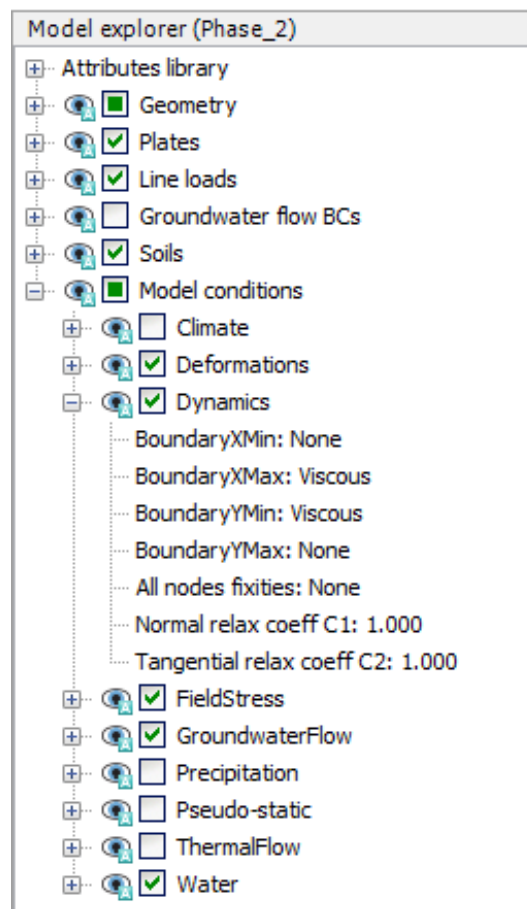

Figure 196: Boundary conditions for **dynamics** calculations
12. Special boundary conditions have to be defined to account for the fact that in reality the soil is a semi-infinite medium. Without these special boundary conditions the waves would be reflected on the model boundaries, causing perturbations. To avoid these spurious reflections, viscous boundaries are specified at Xmax and Ymin. The dynamic boundaries can be specified in the **Model explorer > Model conditions > Dynamics** subtree as shown in Figure 196 (on page 221).